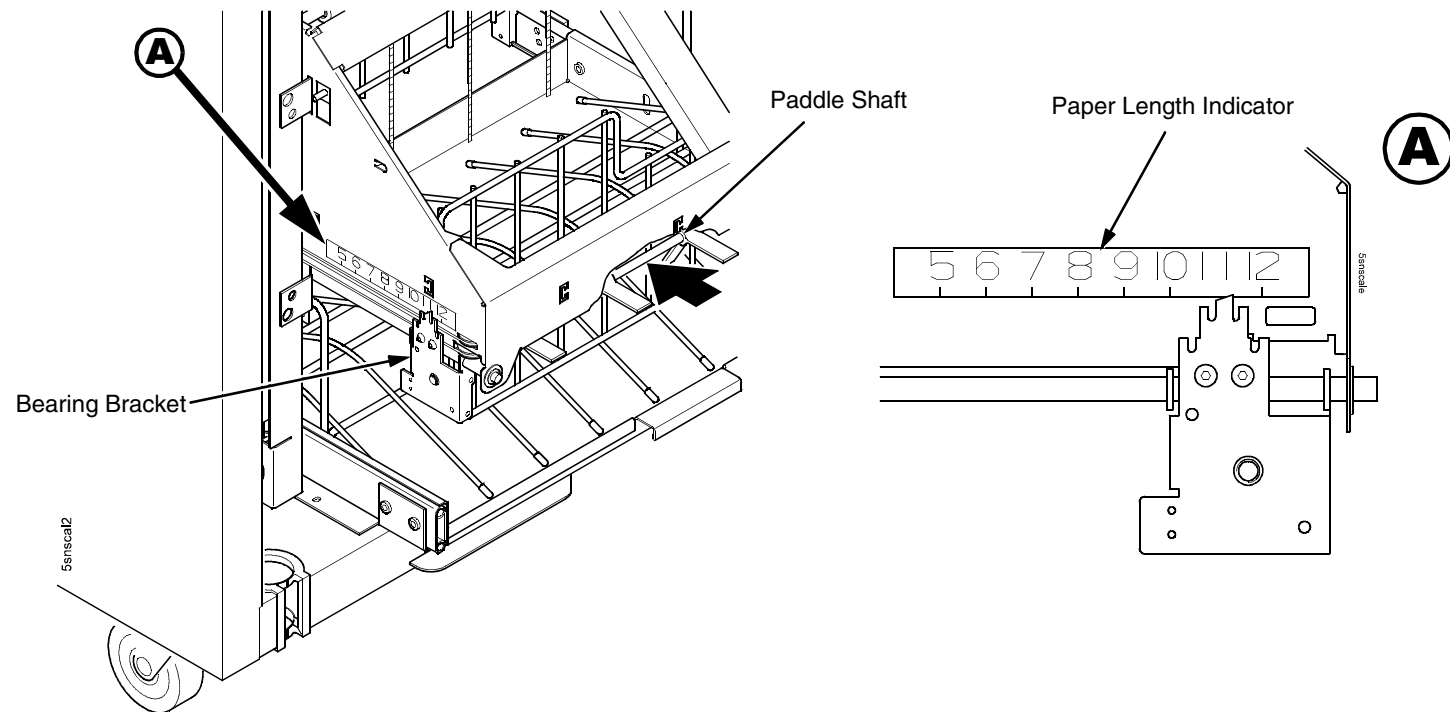

Figure 59. This figure shows how to set the paper length on the power stacker.
6. Push or pull the paddle shaft toward the front or the rear of the printer and set the paper length by aligning indicator notch on the bearing bracket with the paper length indicator. (Length range: 5 to 12 inches.) (Figure 59.)